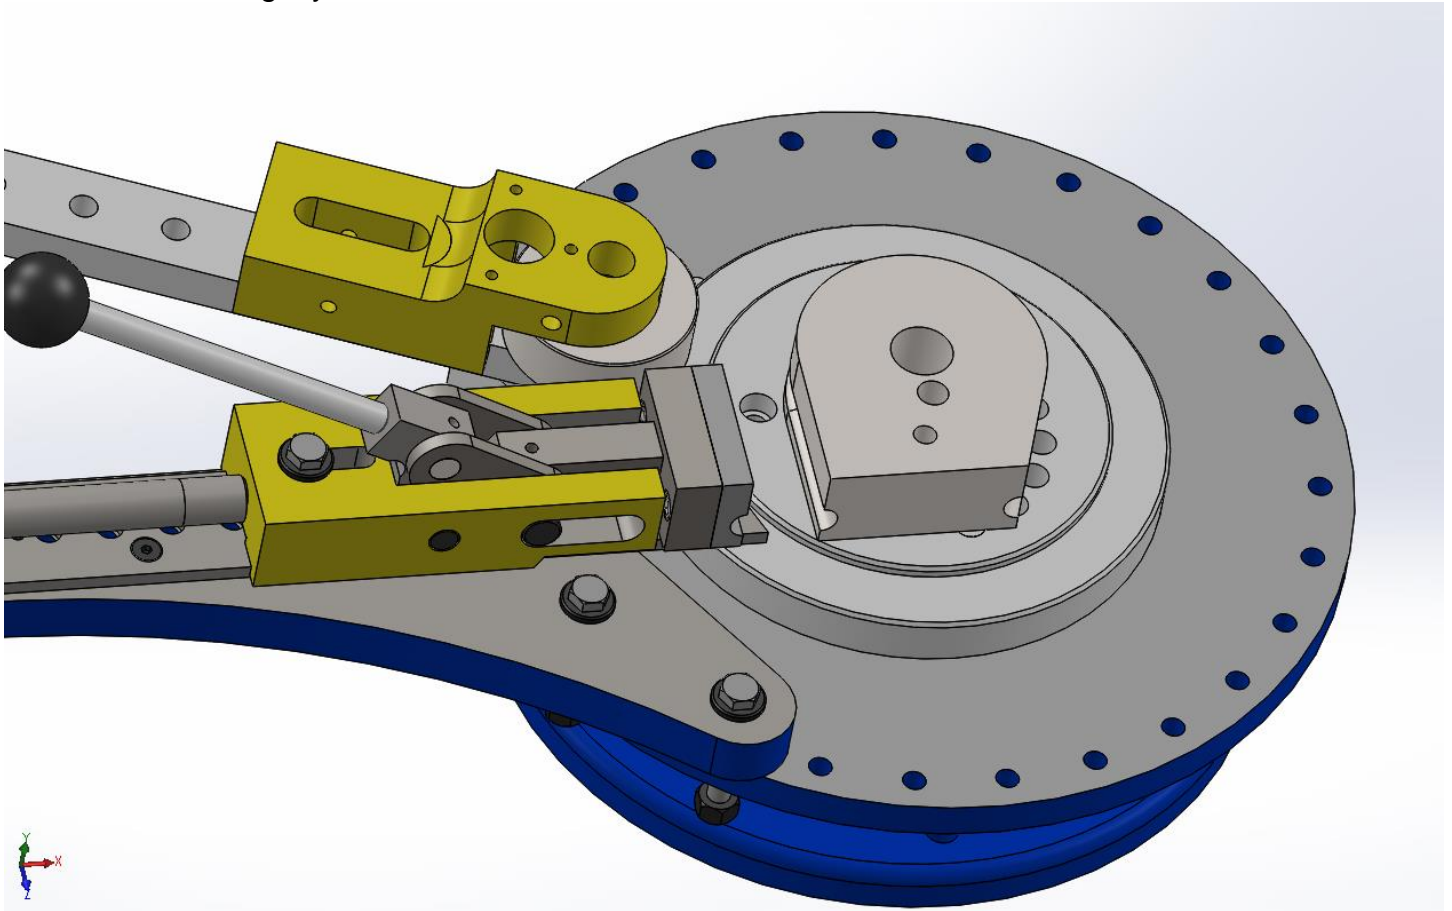

Figure 1: Proper Quik-Lok placement
1. Place the desired radius collar on your bender, and mount the Quik-Lok assembly so that the clamp block is parallel with the flat side of the radius collar, as shown in Figure 1, below. Leave the bolts slightly loose for now.